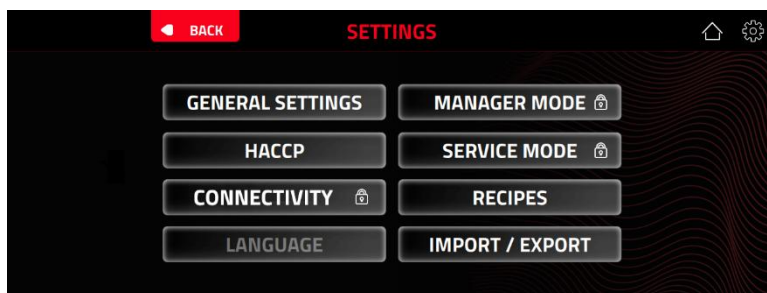

Fig. 6.1
3. **SETTINGS** button: The top right of most screens is a SETTINGS button with a gear icon. This button opens the Settings screen, providing access to 8 Settings buttons to reach more programmable screens. See Fig. 6.1.